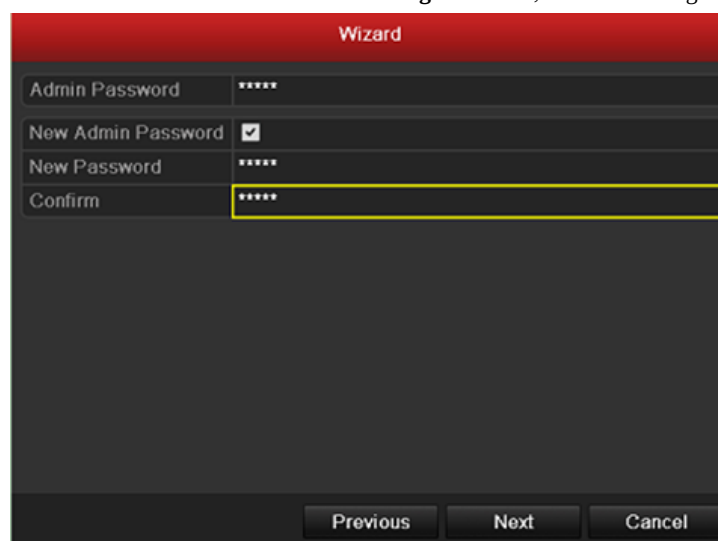

Figure 2.4 Login Window
2. Click **Next** button on the Wizard window to enter the **Login** window, as shown in Figure 2.4.